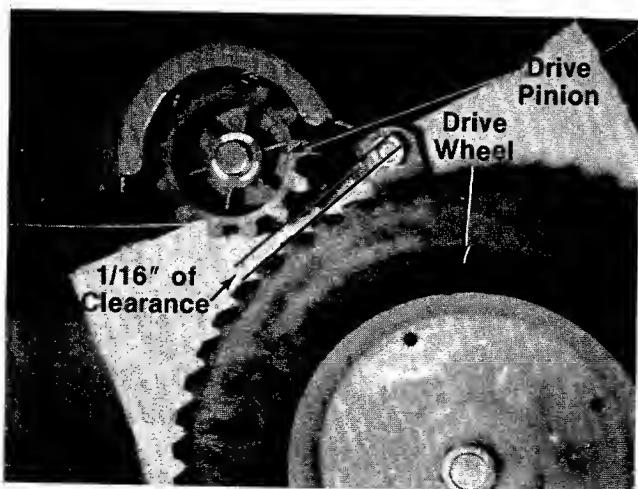

FIGURE 12.
21. Check the clutch rod adjustment as follows. The drive pinions should be approximately  $1/16"$  from the drive wheels when the clutch is disengaged (handle is **not** pushed forward). See figure 12.